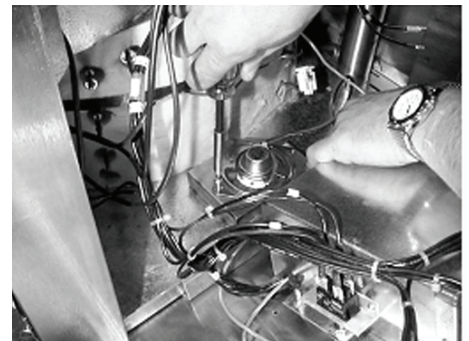

Figure 22
- C. Plug the double-wire probe connector into the female receptacle located at the base of circuit board housing assembly (see figure 22).